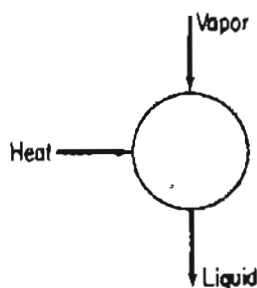

Figure P30.1
- 30.1** Determine the number of degrees of freedom for the condenser shown in Figure P30.1.